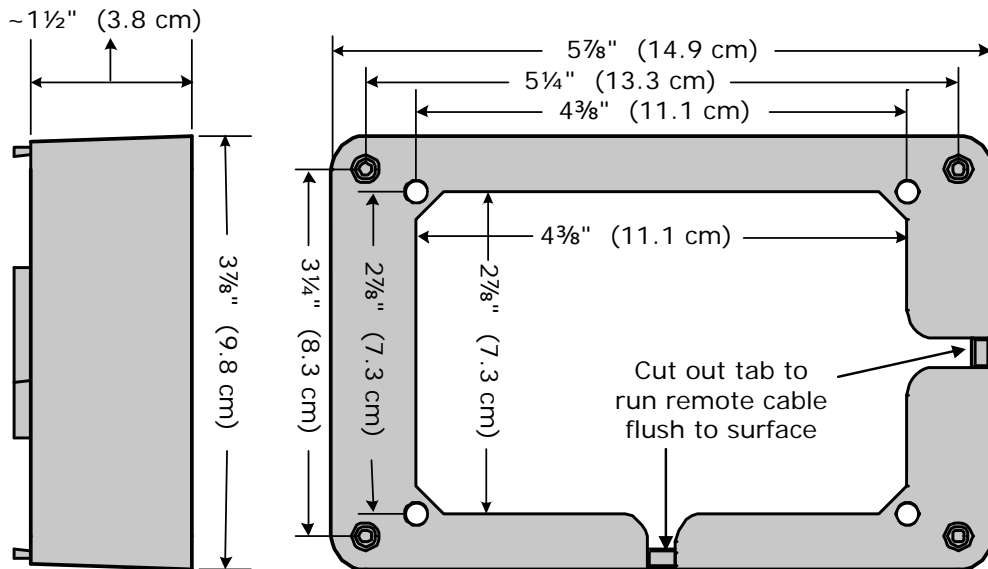

Figure 2-4, Remote Bezel Dimensions
To surface mount, you must use the supplied bezel (Figure 2-4).
**Info:** The bezel has tabs at the bottom and side that are made with thinner material (Figure 2-4). They can be cut or broken out to allow the cable to be routed downward or to the side (Figure 2-6).